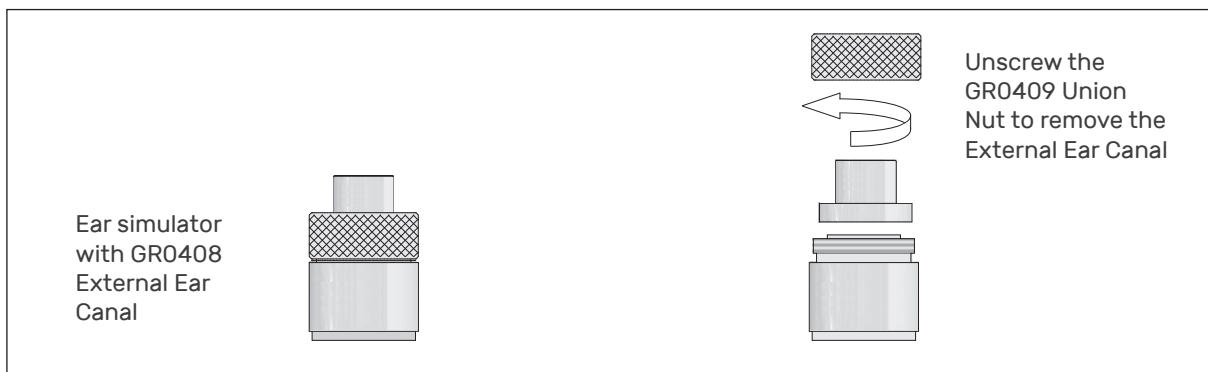
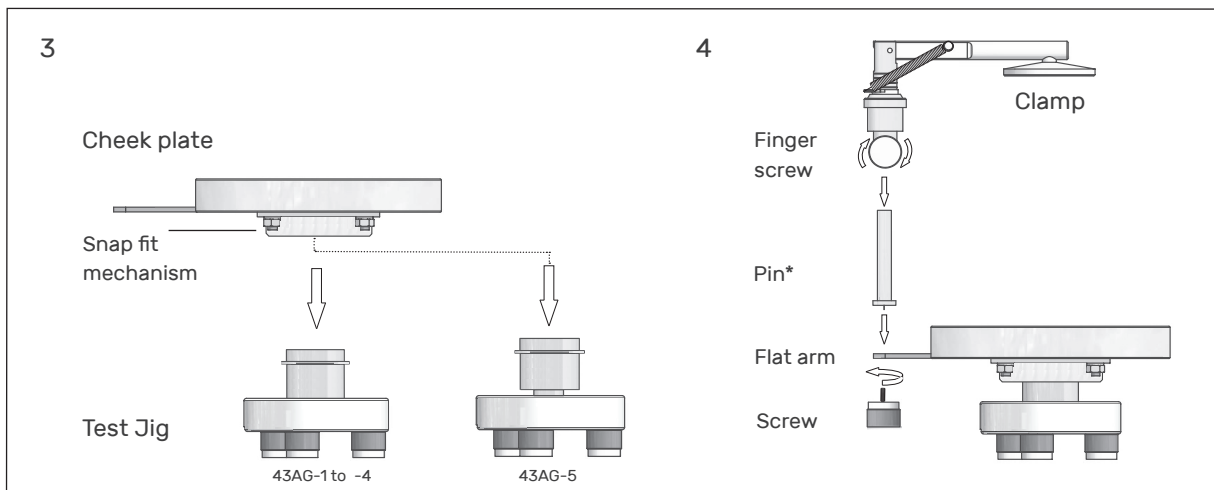
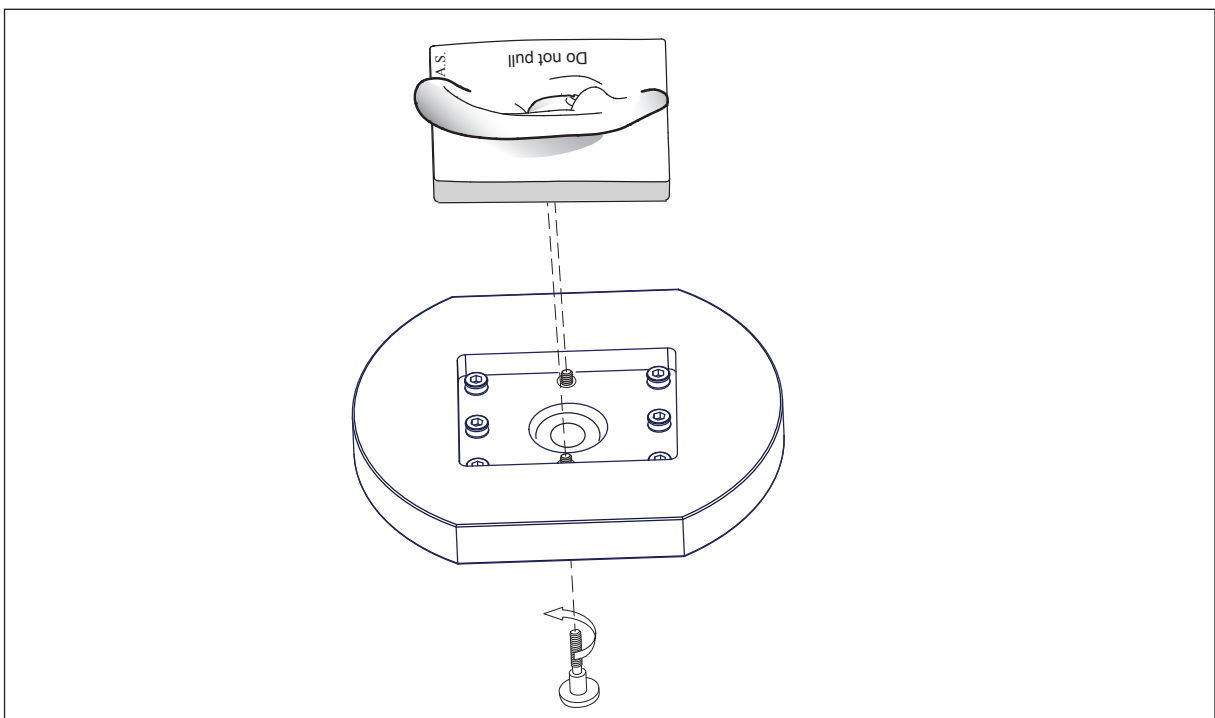

Fig. 2. The GR0408 External Ear Canal must be removed from the ear simulator prior to mounting.
Fig. 4. Mounting the cheek plate and the spring-loaded clamp.
Fig. 10. Securing an anthropometric pinna with two finger screws.
The low-noise ear simulator is mounted a little higher in the Test Jig because the preamplifier is bigger (See Fig. 4). However, the ear simulators used in the 43AG configurations are mounted the same way – screwed onto the RA0001 Angled Adapter – and therefore the mechanical stability is the same. The GR0408 External Ear Canal must be replaced with the Ear Simulator Holder. See Fig. 2 and Fig. 3.1. It is not glued and can freely be removed.
The anthropometric pinna used with 43AG-3 to 43AG-7 is mounted in the same way, but in addition to the push mounting, they must be secured by the two finger screws mounted from the underside of the cheek plate, as shown in Fig. 10 below. To mount these screws, you must first remove the cheek plate assembly, see Fig. 4.
1. Remove the cheek plate from the test jig by pulling it up until released by the snap fit mechanism. This is the opposite of step 3 on page 12. See also Fig. 4.
4. Remount the cheek plate by pushing it down onto the jig until it is held in place by the snap fit mechanism as shown in Fig. 4 on page 15.
The steps required are shown on Fig. 2 on page 14, but should be reversed. However, do not remove the ear simulator from the test jig.
1. Remove the Cheek Plate by pulling it upwards until released by the snap-fit mechanism (reverse of Fig. 4, 3).
1. Remove the cheek plate by pulling it upwards until released by the snap-fit mechanism, see Fig. 4 on page 15.